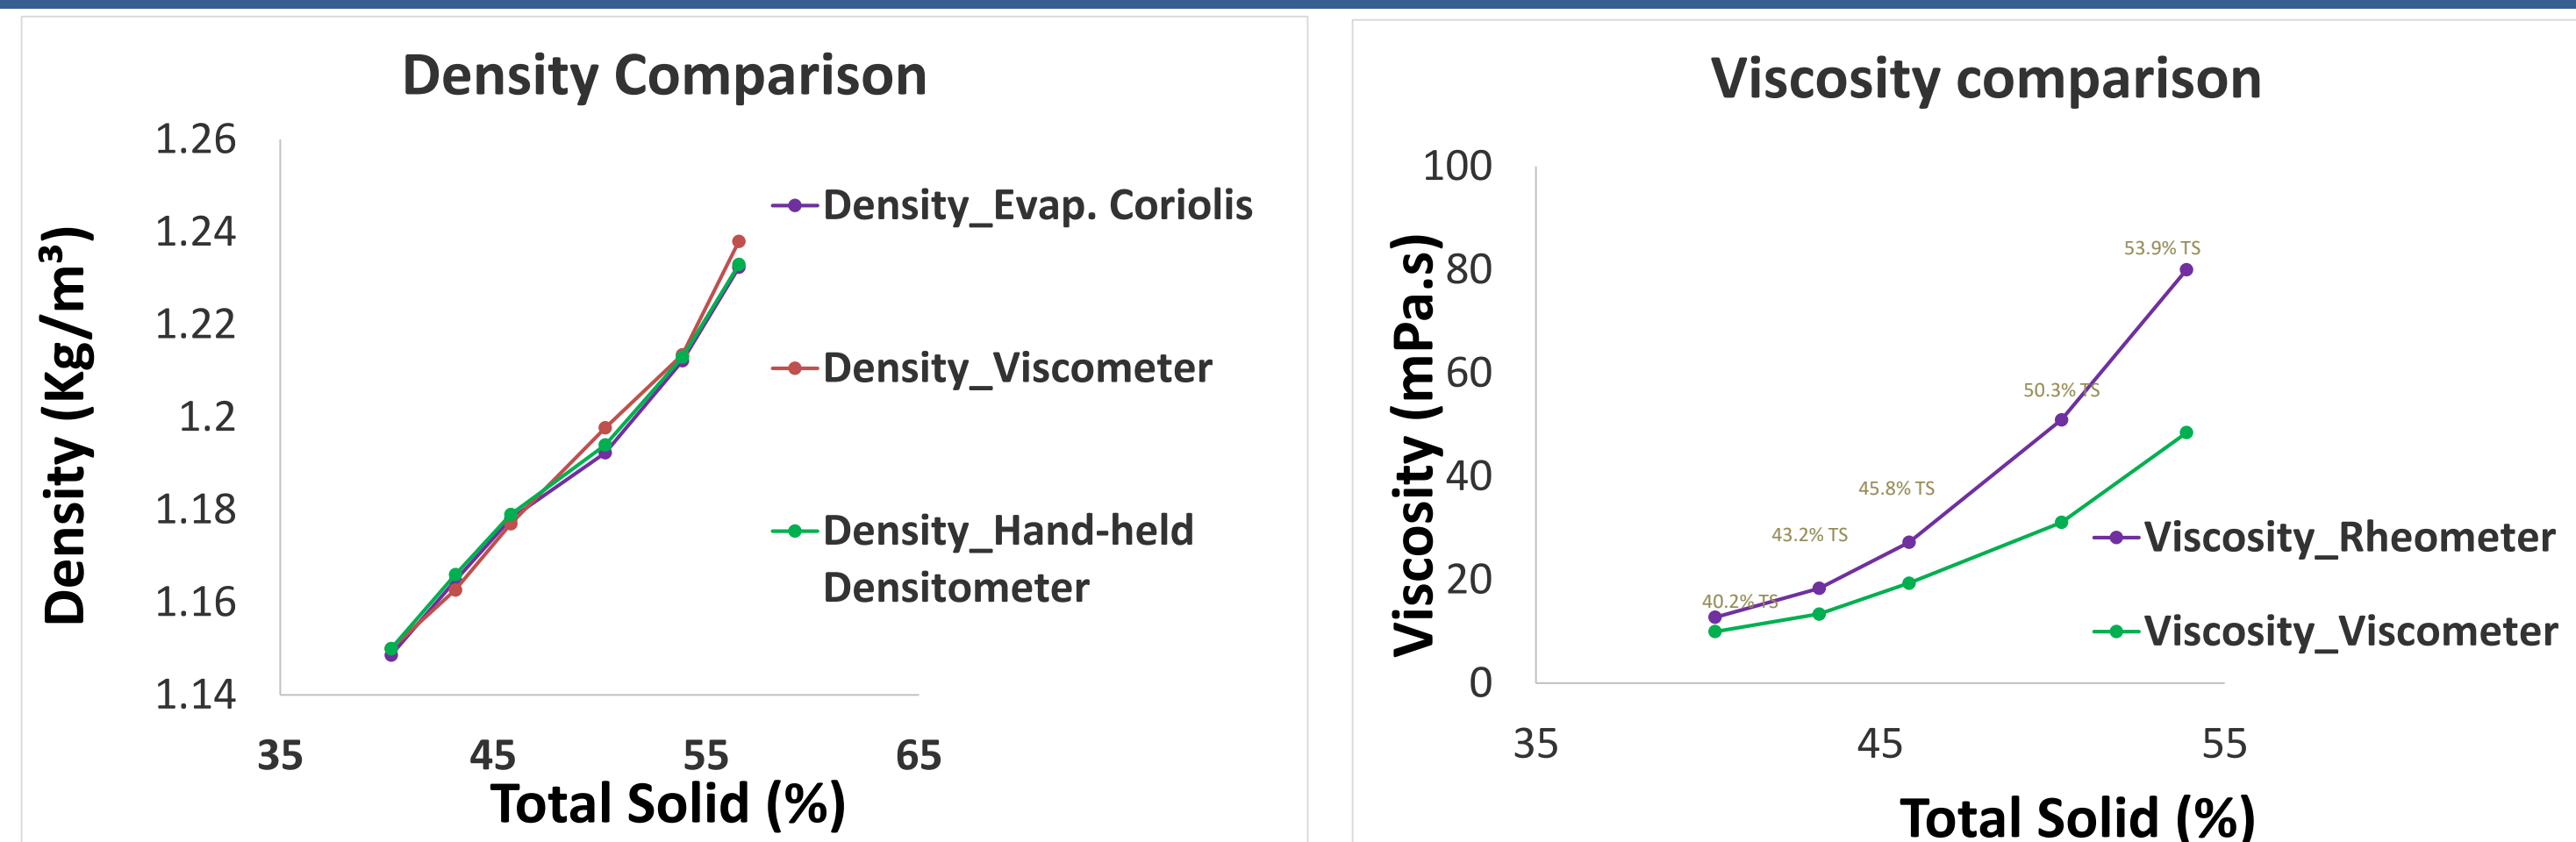

Fig. 2 & 3 (left to right). Comparison of in-line vs off-line measurements
- **Figure 2:** illustrates density measurements of skim milk concentrates as a function of total solids.